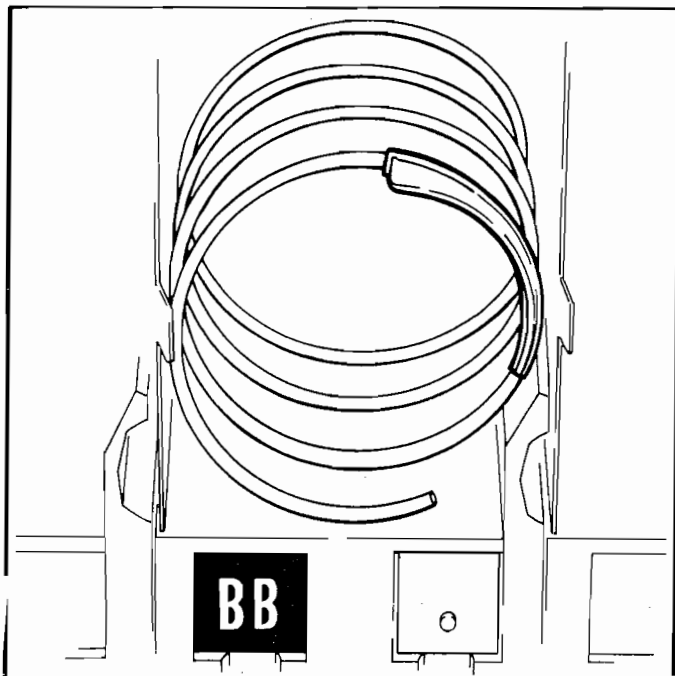

Figure 7. LOCATION OF PRODUCT PUSHER ON SPIRAL.
9. **PRODUCT PUSHER:** Some products used in the 10-selection shelves may require the addition of a product pusher (see page 23, item 21). This plastic part is designed to push the top of the product forward while it is vending, helping it fall from the shelf. It can also be used with product that has the wrapper end flap on the outside of the package. In this case, the pusher prevents these products from hanging on the spiral by spreading the flap. The pusher is installed approximately 210 degrees from the front end of the spiral with the tab extending forward (see Figure 7). Locate the pusher in its proper position, hold it against the spiral wire and push the semi-circular part around the spiral wire. Do not use this pusher on all products as it is not needed with most products. If you experience any product vending problem, install a pusher on that spiral only and test vend several times to see if it eliminated the problem.